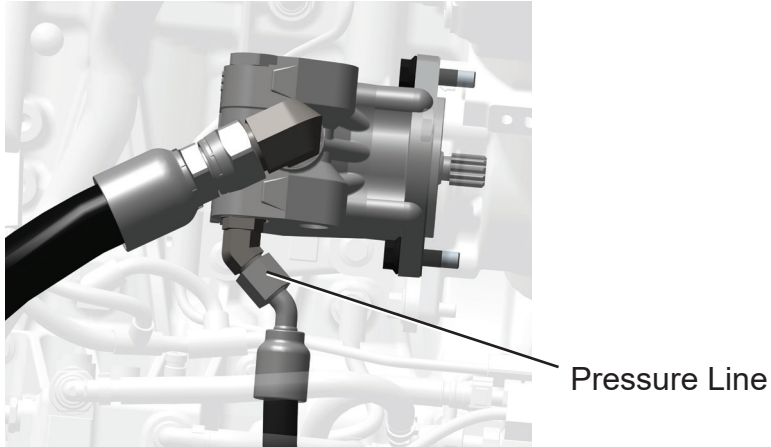

Figure 9
23. Slightly loosen power steering pump pressure line, see Figure 9.
25. Retighten power steering pump pressure line, see Figure 9.